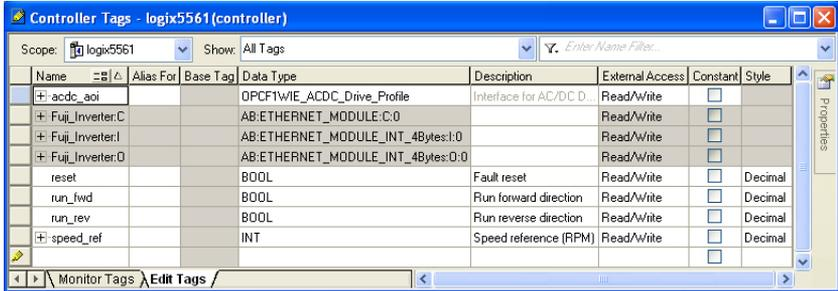

Figure 95: Create AC/DC Drive Profile AOI Tags
- 4) Create the tags in Figure 95.